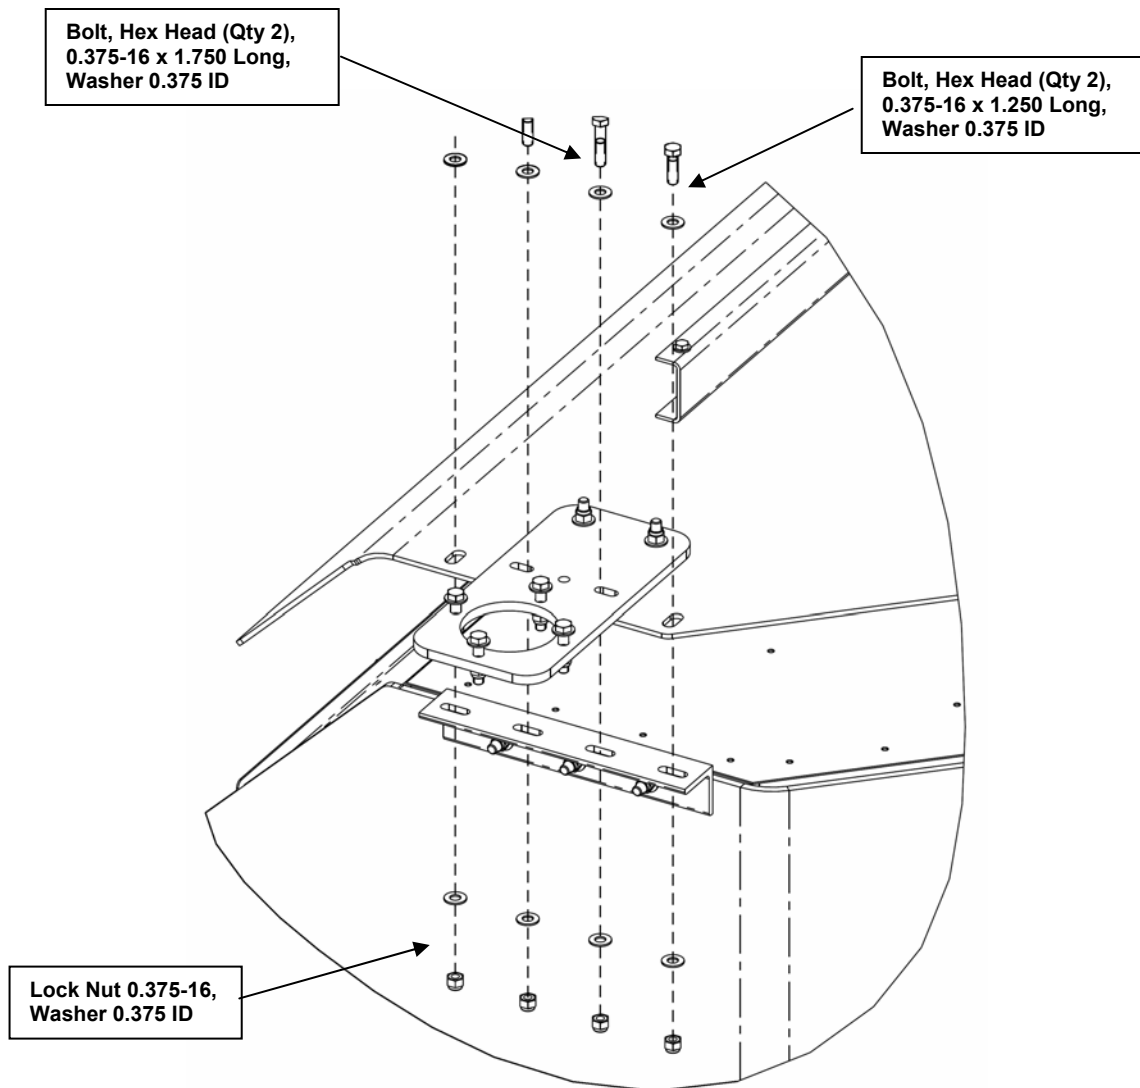

Figure 42. Installing the Antenna Mount, Left Side.
- h) Attach the Left Rear Panel to the roof using the hardware shown in Figure 42. Do not fully tighten the bolts at this time. Tighten the bolts such that the top of the top surface of the angled bracket is 0.00 to 0.60 in. from the bottom surface of the roof panel.